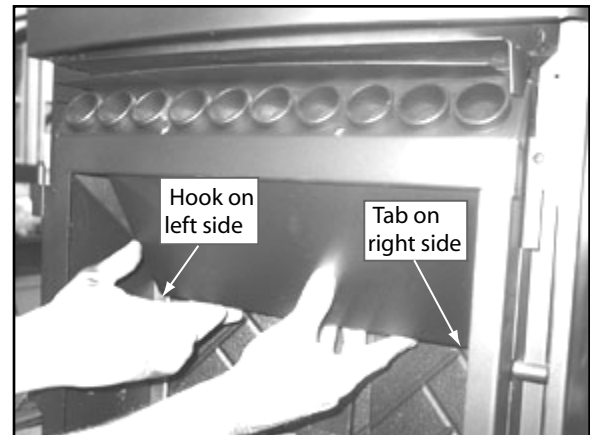

Figure 35.2
3. The baffle is secured to the right bracket. A tab on the baffle is inserted into a notch on the right bracket. Lift the baffle up, out of the notch and towards you. **Figure 35.2.** The left side of the baffle has a hook that rests on the top edge of the brick. This side will just lift off.